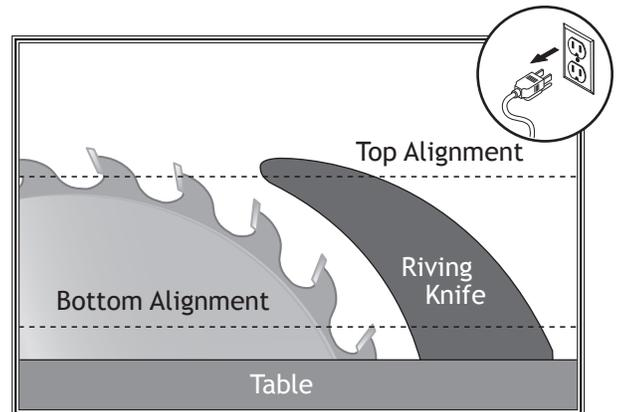
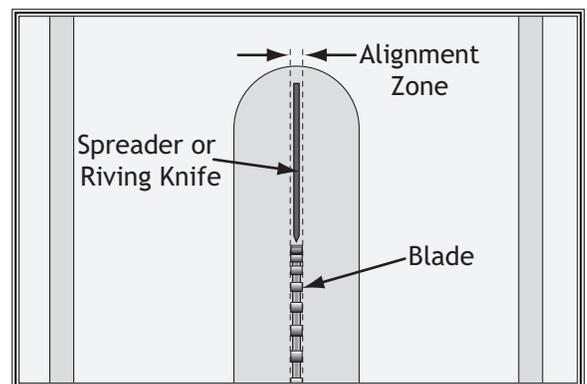

Figure 111. Example of checking top and bottom riving knife parallelism with blade.
Figure 112. Spreader/riving knife alignment zone.
3. Place straightedge against side of blade and spreader/riving knife at top and bottom, as shown in **Figure 111**. Spreader/riving knife should be parallel with blade along its length at both positions, and in "Alignment Zone," as shown in **Figure 112**.
2. Bend spreader or riving knife by hand while installed, then follow **Steps 1-3 in Checking Alignment on Page 70** to determine if it is parallel with blade and inside "Alignment Zone" (see **Figure 111 on Page 70**).